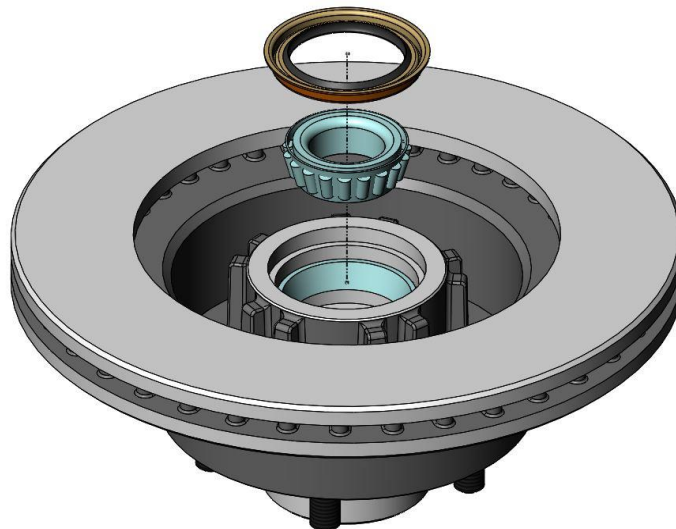

Figure 4 – Inner Wheel Bearing Installed
7. The wheel bearings can now be packed and installed. We recommend the use of Lucas Oil “Red-N-Tacky” Grease (**Available At Master Power Brakes P/N: ACNLG12**) or other high quality NLGI rated wheel bearing grease. Once the inner bearing is installed, tap the inner seal in at this point. Figures 4 below shows the bearing and seal being installed.